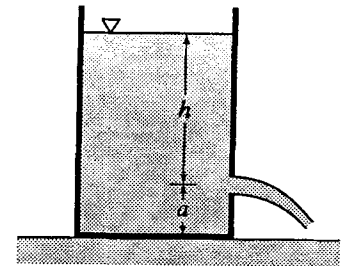

Figure P6.36
6.37 An ideal liquid ( $\gamma = 9810$  N/m3) flows from a 400-mm-diameter tank as shown in Fig. P6.36. The jet diameter is 80 mm and  $a = 250$  mm. If the static coefficient of friction between the tank and floor is 0.6, determine the minimum value of  $h$  at which the tank will start to move to the left. The tank itself weighs 500 N.